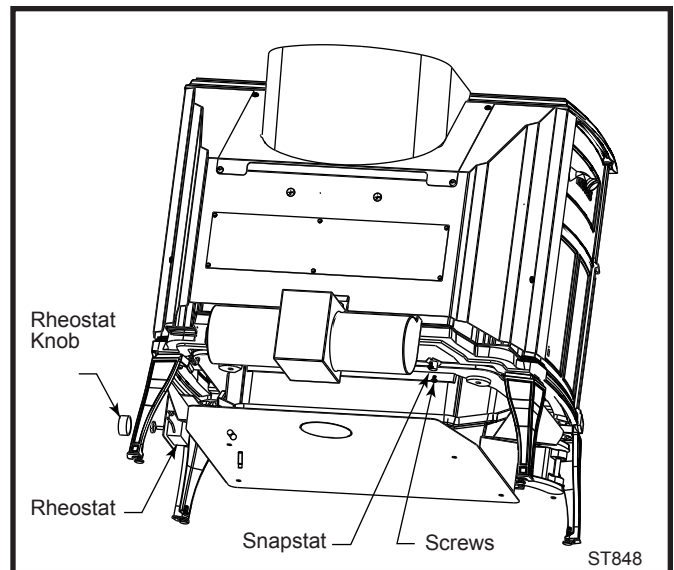

Fig. 18 Fan installation (Kit # 2767).
1. Remove the sheet metal outer back shown in Figure 18.
2. Attach the fan assembly at the bottom edge of the inner back with two (2) 1/4-20 x 3/4" hex head screws and one (1) 1/4" star washer.
3. Attach snapstat to the mounting holes on the underside of the bottom with two (2) 1/4-20 pan head screws.
4. Attach the rheostat holder, (provided with stove), under the right wing of the bottom heat shield with two (2) #10 sheet metal screws.